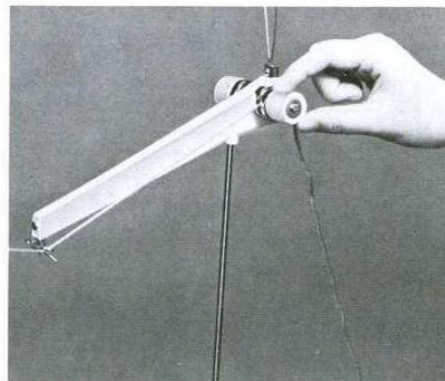

Fig.27
- (h) Turn the yarn feed control dial to an appropriate number for the thickness of wool you are going to use. (Fig.27)